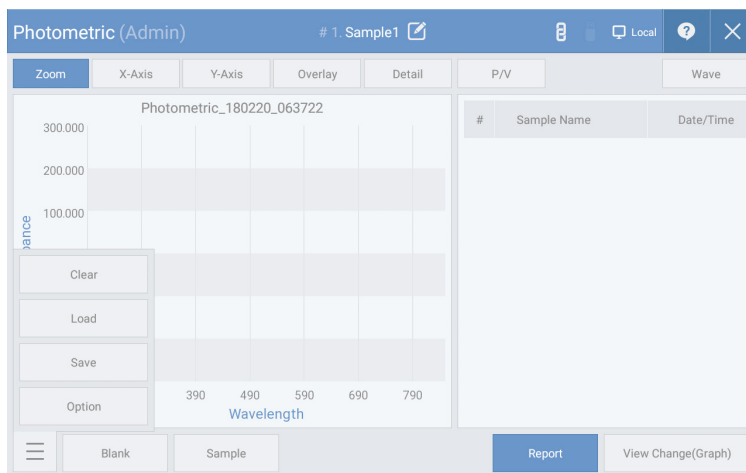

Fig. 3.7
1. Click the "Settings" button in [Fig. 3.7] to set the measurement environment.
2. Load the blank sample and click "Blank" shown in [Fig. 3.7] to measure the zero point.
4. Load the sample and click the "Sample" button shown in [Fig. 3.7] to begin measurement.